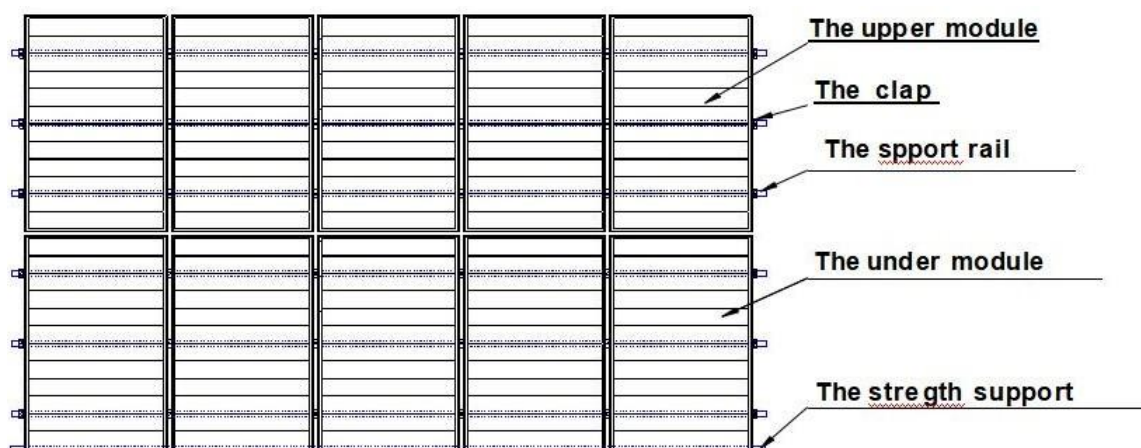

Figure 3 Schematic diagram of reinforcement mounting of module
6.2.1.3 For the roof system installed in the area with relatively heavy snow fall or snow cover in the meteorological records, the installer shall reinforce the supporting system at the lower frame of the module, in order to prevent the lower frame from being pressed and damaged by the falling snow or freezing of the melted snow. Maysun Solar suggests selecting the support reinforcing mechanism shown in figure3.